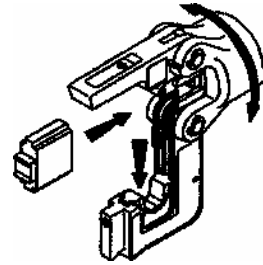

Figure 83. HD51 Crimping Tool Die Insertion
- a. Open head and insert crimping dies (Figure 83). The head assembly has two slots to slide the dies in and out easily.